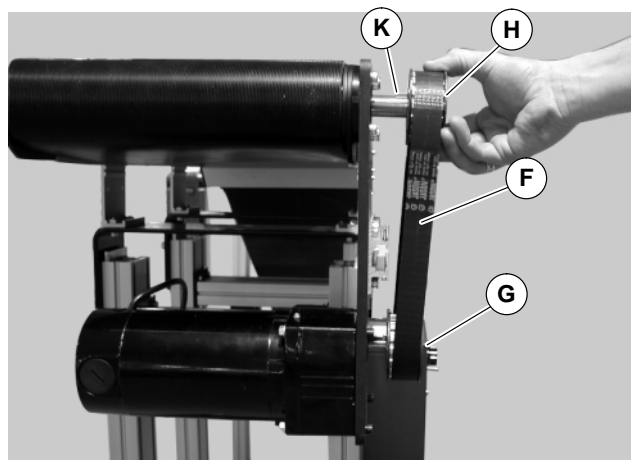

Figure 5
4. Install key (K of Figure 5).
**NOTE:** If drive pulley (G of Figure 5) is replaced, wrap timing belt around drive pulley and complete step 3.